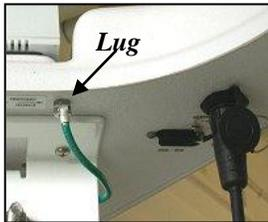

Figure 17: The ground lug connected to the bottom of the WeatherHawk.
1. Connect the lug of the 14 AWG copper wire to the connector labeled Ground Lug on the bottom of the WeatherHawk station (Figure 17).